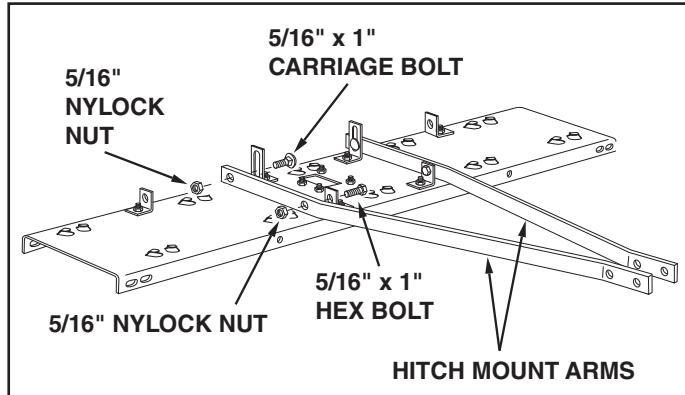

FIGURE 3
5. Fasten the hitch mount arms to the outside of the angle brackets at the front of the tine shield. Use two 5/16" x 1" hex bolts and 5/16" nylock nuts. **Tighten** and then **loosen** the nuts slightly. See figure 3.
6. Fasten the hitch mount arms to the outside of the hitch arm mount brackets at the rear of the tine shield. Use two 5/16" x 1" carriage bolts, and 5/16" nylock nuts. **Do not tighten yet**. See figure 3. **Be sure to use carriage bolts for the rear hitch arm mount brackets and not hex bolts**.